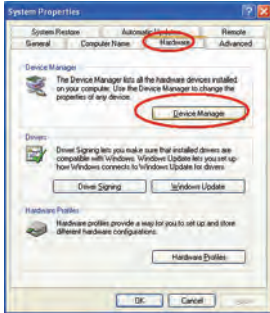

Fig.10
- (7) Click Install.
- (8) After finish installing USB-120 connector driver, it will install SE378 software automatically. It will copy SE378.exe ( executable file ) and help file to your hard disk ( default location is c:\program files\SE378)
- (9) After finish installation, plug USB-120 connector to PC usb port, execute "start"→ "My Computer", then choose "View System Information" on the left top of the window, the window below will show up.(see Fig.10)